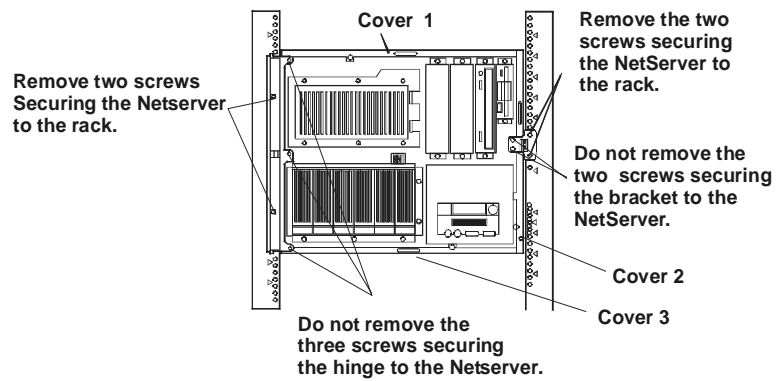

Figure 3-4. Front of LH 3000r Screw and Cover Locations
3. Use a Torx 15 screwdriver to unscrew the four screws, as shown in Figure 3-4.